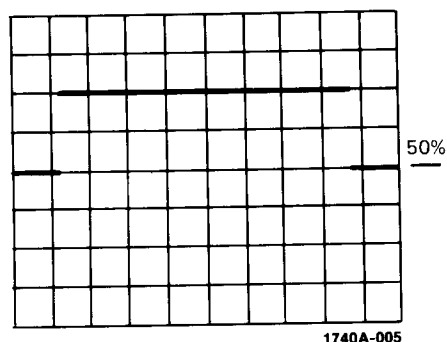

Figure 3-4. Magnified Display
c. Press MAG X10 33 and adjust horizontal FINE 26 for precise placement of magnified display (see figure 3-4).